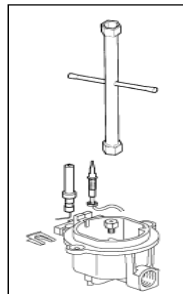

Fig 4
- Unscrew the nozzles using a 7 mm spanner, and replace them (Fig.4) with those needed for the new type of gas according.